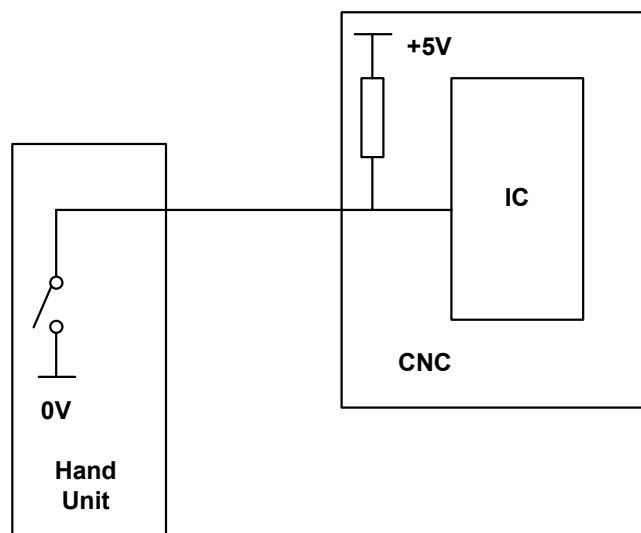

Fig. 3-2-2-1
b) The axis selection and override signal loop are shown in the Fig. 3-2-2-1